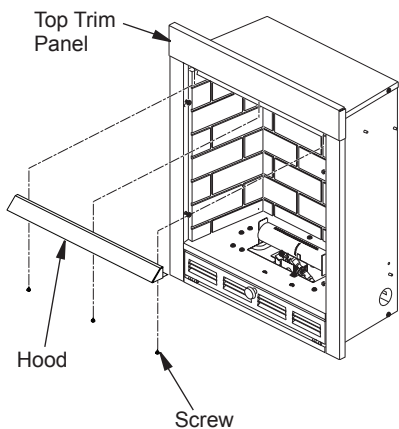

Figure 3 - Assembling Hood
- Place hood under top edge of firebox opening. Use 3 screws from hardware kit to mount screen to firebox (see Figure 3).